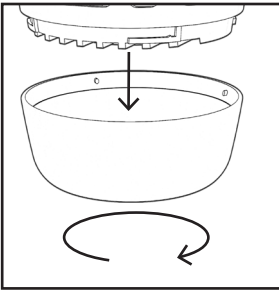

Fig. 1
2. Twist the base tray as indicated in previous instructions. (Fig. 1)